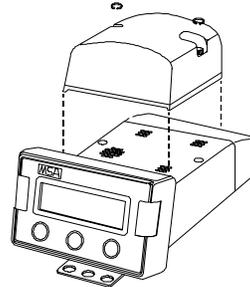

Figure 2-22. Pump Installation
2. Install the Pump Module if it is not already attached (FIGURE 2-22).